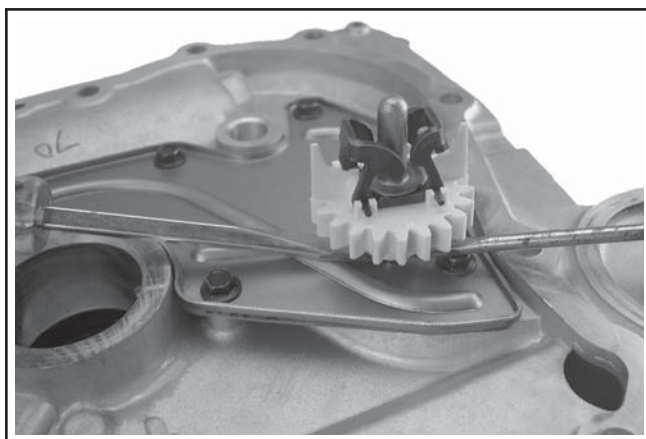

**Figure 8-37. Closure Plate and Gasket Removed from Crankcase.**
3. Remove the closure plate assembly and gasket. See Figure 8-37.